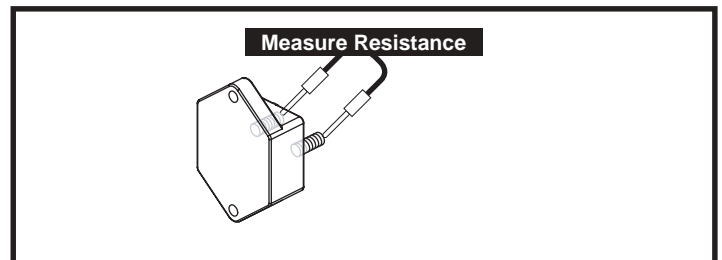

Figure 9. Circuit Breaker (10)
12. Measure resistance across the two terminals of the circuit breaker (10). **See figure 9.**
- If your multimeter indicates less than 1 ohm, then replace the battery cable (5) and retest the system.
- If your multimeter indicates greater than 1 ohm, then replace the circuit breaker (10) and retest the system.